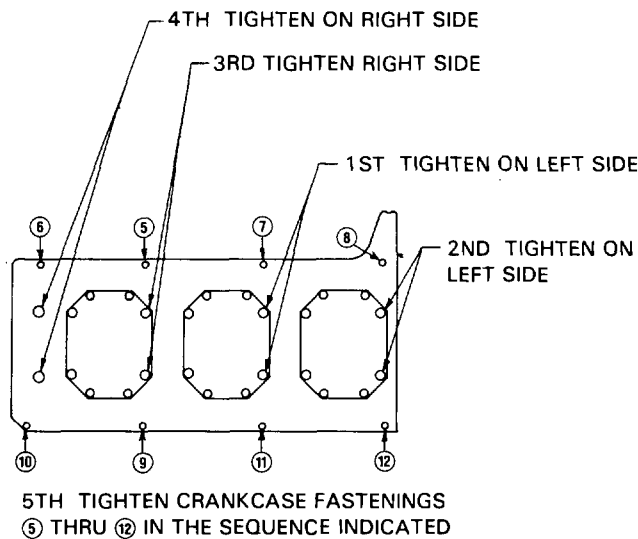

Figure 7. Left Side of Crankcase
g. Six Cylinder Geared Engines (Wrap-Around Crankcase), Standard Cylinder Flange (See Figure 7).